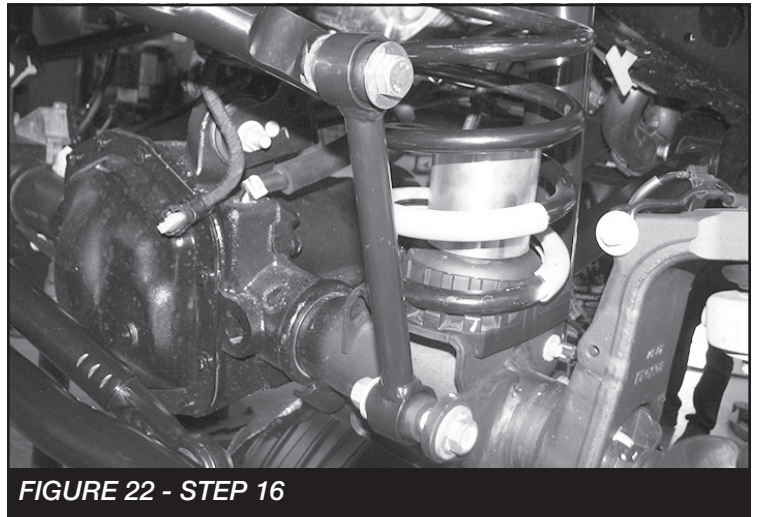

FIGURE 22 - STEP 16
16. Install FT50048 (Bushings) and FT404739 (Sleeves) into FT50261BK (Sway bar links). Then, install the links to the axle mount and sway bar using the supplied M12 x 70mm hardware for the upper location and the factory for the lower. Torque to 100 ft-lbs. **SEE FIGURE 22**